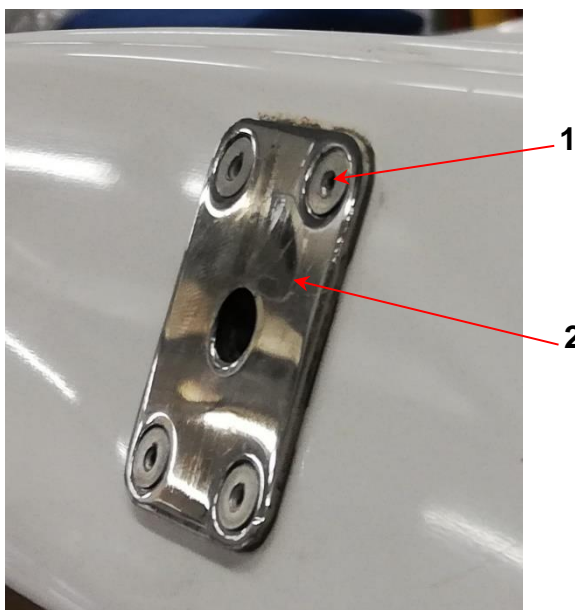

Fig. 1
- 1.1. Drill out the rivets (1, Fig. 1) and remove original canopy lock socket (2) from the fuselage.